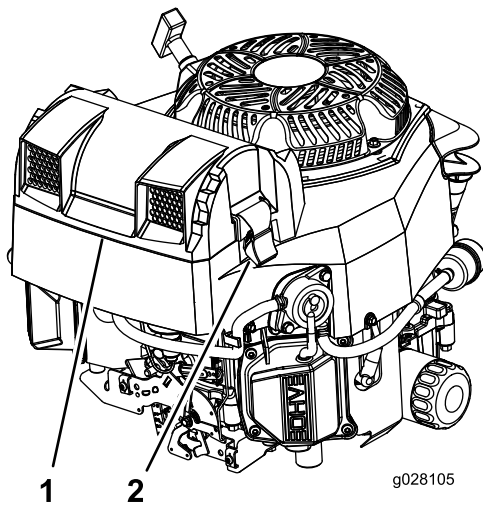

Figure 33
2. Remove the cover to access the air-cleaner elements (Figure 33).
3. Install the cover, and secure it with the latches (Figure 33).